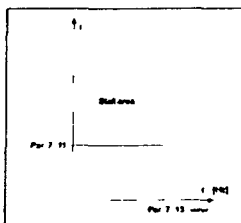

Figure 3.5-30 Setting the stall characteristics.
- In a stall the current has to be above this limit. See figure 3.5-30. The value is set as a percentage of the motor's nameplate nominal current, parameter 1 13. If parameter 1 13 is adjusted, this parameter is automatically restored to its default value.
- In a stall, the output frequency has to be smaller than this limit. See figure 3.5-30.